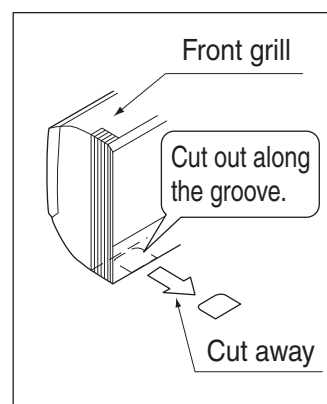

Fig. 4
- Check the location for the hole using the included paper pattern for installation (3).
- Temporarily attach the installation panel (1) at the temporary-securing position on the paper pattern for installation (3) and use a level to make sure the drain hose is either level or tilted slightly downward.
- Secure the installation panel (1) to the wall using either screws or bolts.
- If using the attachment screws for the installation panel (2), attach using at least 4 screws on either side (for a total of 9 screws) of the recommended installation cleat position on the included paper pattern for installation (3).
(3) If using the left, bottom-left, or bottom-right positions for the piping, cut out the through-hole for the piping in the front grill. (Refer to Fig. 4)